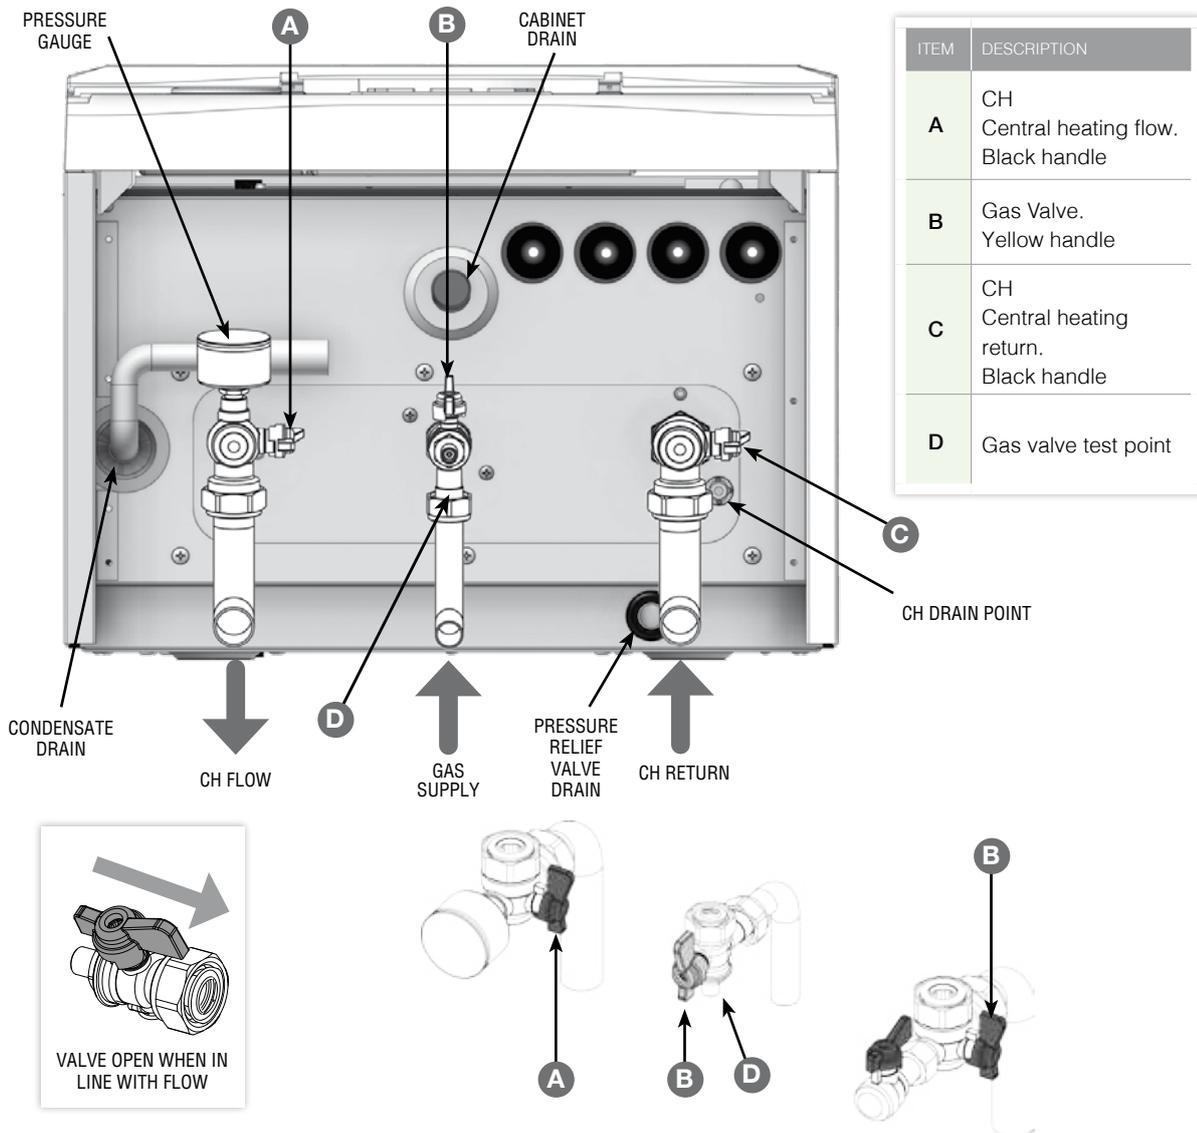

FIGURE 25. VALVES, TAIL PIPES & CONNECTIONS
**NOTES.** Ensure all boss blanking plugs are removed before connecting hardware. Each valve must be fitted to the correct boss as shown. See Figure 25.
14.4.1 The drain comprises of a 15mm diameter stub pipe. See Figure 25.